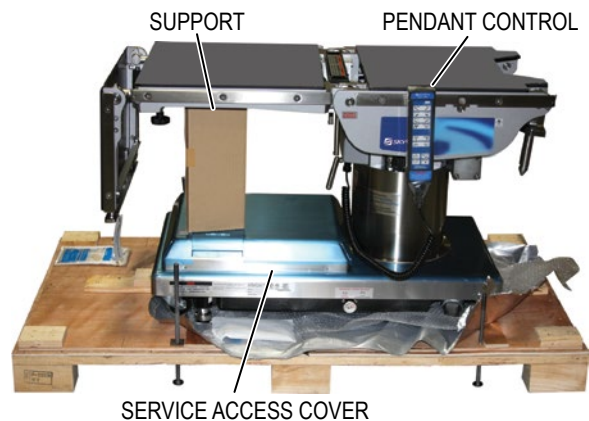

Figure 3. Remove Table Support
6. Use the TABLE UP button on the pendant control to raise the table just enough to remove the support from the under the table assembly approximately 3 inches (Figure 3).